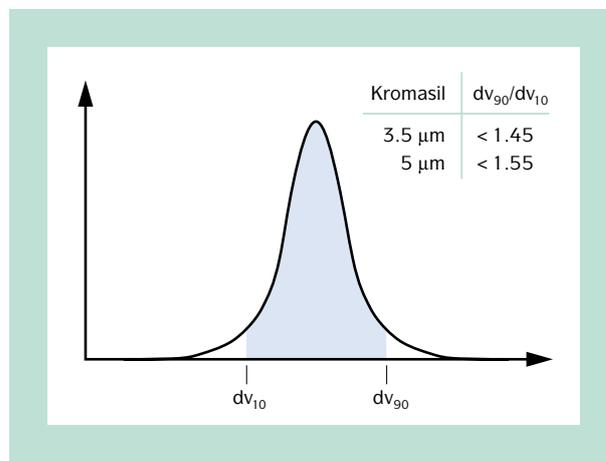

Figure 2 | Particle size distribution showing the  $dv_{90}/dv_{10}$  ratio.
In order to define and secure a narrow particle size distribution we use the  $dv_{90}/dv_{10}$  ratio in our quality control (QC) procedure, figure 2.